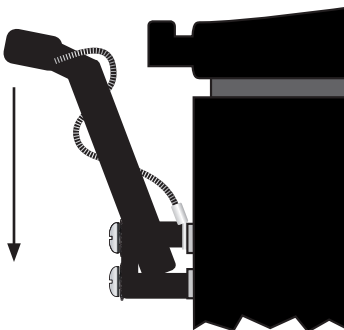

FIG. 3
- 3** Make sure that the handle of the Rubber Latch (G2) curves downward when attached [FIG. 3].